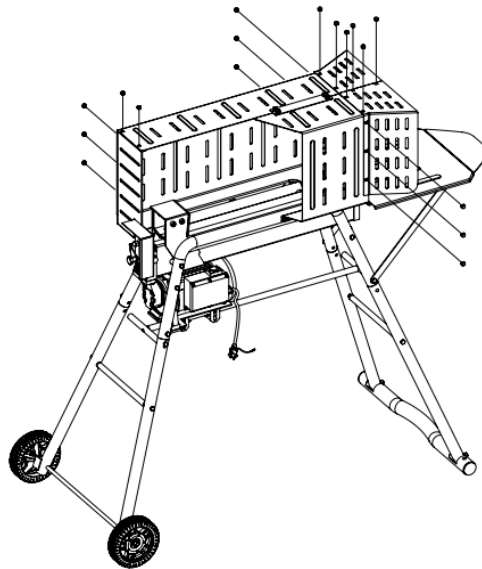

Figure 2
2、 Step 7: Use the wooden hammer to knock the 17 pieces of fixed ⑦ gently into the installation hole of the protection guard② and the back cover③, and then gently knocked the fixed ⑦ into the installation hole of the right and left cover. See figure 2